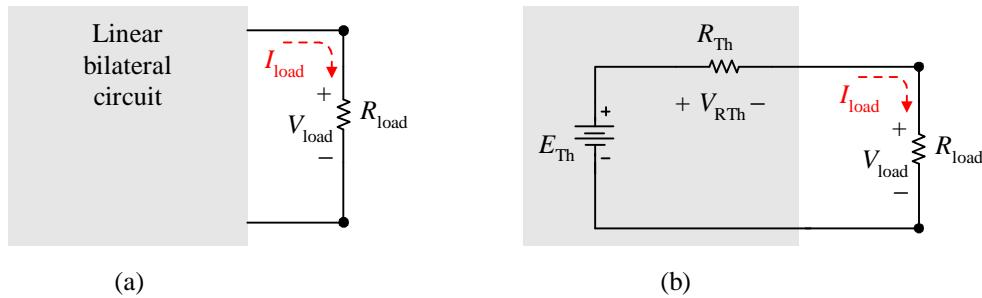

Figure 1-14 Finding R_{Th} with loaded circuit and model
To measure R_{Th} attach a load and draw a load current through R_{Th} . Then, measure two of the following: (1) the load voltage, and either (2) the load current, or the load resistance. Ohm's law then can be used to calculate R_{Th} . Look at Figure 1-14.